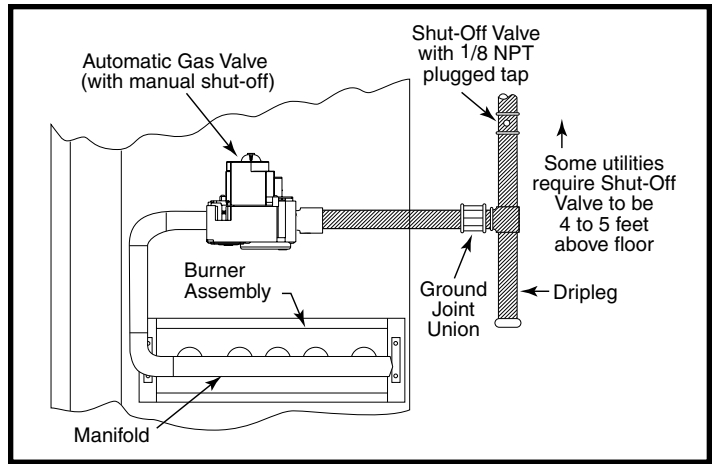

Figure 7. Typical Gas Hookup - Right Side Entry
- Some local codes require the installation of a manual main shut-off valve and ground joint union external to the furnace. See Figure 7 \(page 15\). The shut-off valve should be readily accessible for service and/or emergency use. Consult the local utility or gas supplier for additional requirements regarding placement of the manual main gas shut-off.
- A drip leg should be installed in the vertical pipe run to the unit (Figure 7).
This unit only has right side gas entry. When connecting the gas, provide clearance between the gas supply line and the entry hole in the unit's casing to avoid unwanted noise and/or damage to the unit. A typical gas service hookup is shown in Figure 7.